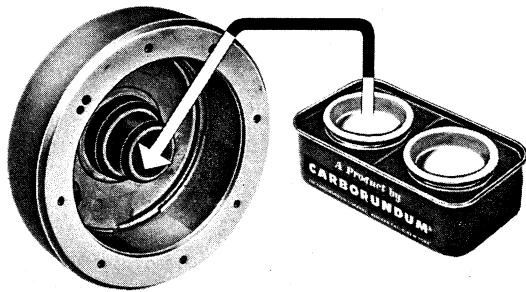

Fig. 8.2
**NOTE!** Don't forget to wipe the cones on the shaft and on the flywheel free from grinding compound. See fig. 8.2.